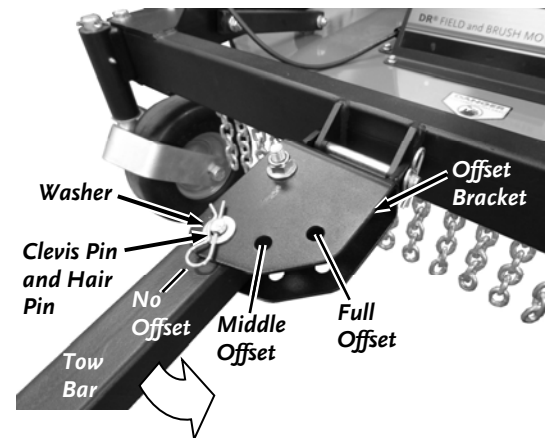

Figure 28
1. Remove the Hair Pin, Washer, and Clevis Pin that secures the Tow Bar in the Offset Bracket (**Figure 28**).